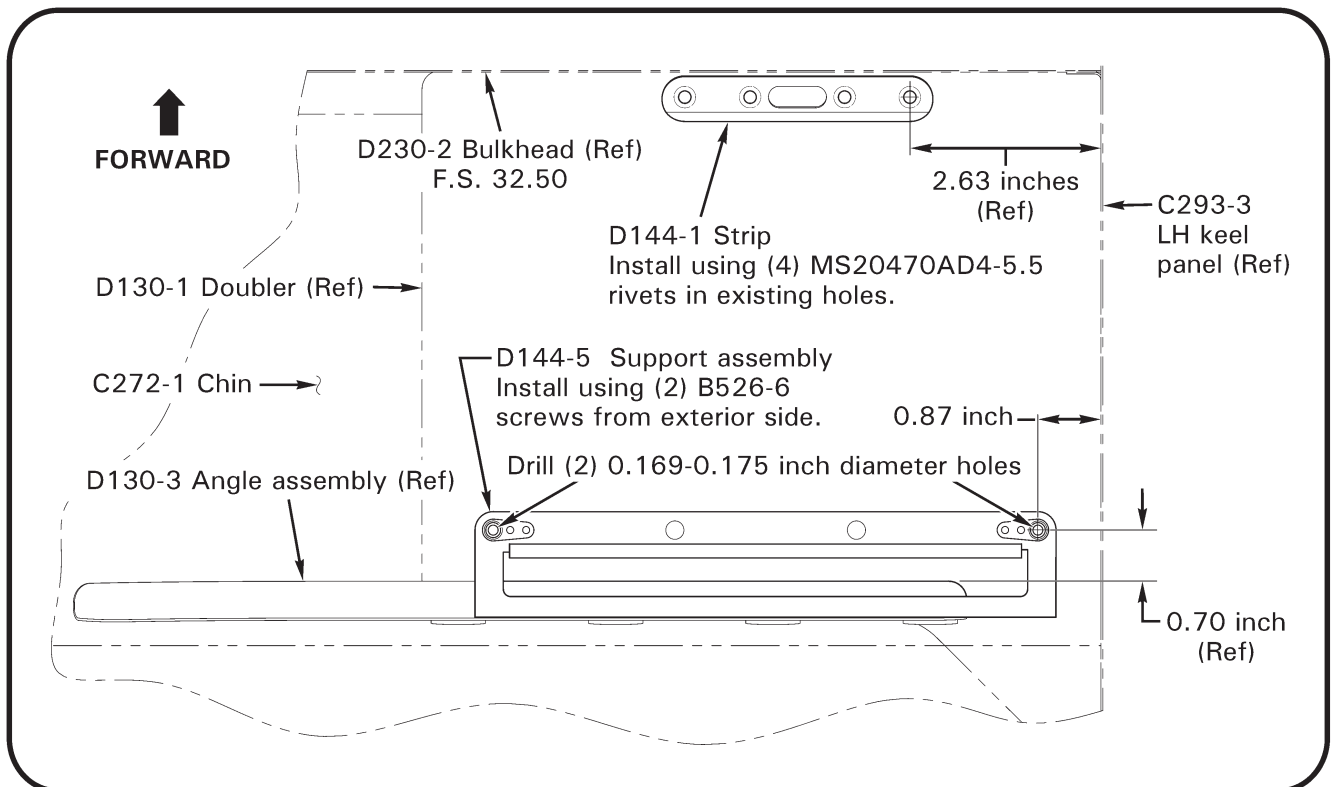

FIGURE 4 Installation dimensions for D144-1 strip & D144-5 support assembly (view looking down)
12. Refer to Figure 4. Position D144-1 strip with installation holes aligned over drilled-out rivet holes (ref step 7) and install appropriately-sized cleco (in center holes) from exterior. Install (2) MS20470AD4-5.5 rivets (each end of strip) from exterior side, ensuring rivet bucked end is 0.150-inch (minimum) diameter and is flush to countersunk hole (of strip) within 0.010 inch. Remove clecos and install remaining (2) MS20470AD4-5.5 rivets as previously described.
13. Install (8) MS20470AD4-4 rivets from exterior side in drilled-out rivet holes (removed D129-2 tray).
14. Refer to Figure 4. Position D144-5 support assembly 0.870 inch inboard from C293-3 LH keel panel and flush to D130-3 angle assembly. Trace with scribe two screw holes thru nutplates. Remove support and drill (2) 0.169–0.175 inch diameter holes. Deburr holes and clean up debris.
15. Install D144-5 support assembly using (2) B526-6 screws from exterior side.